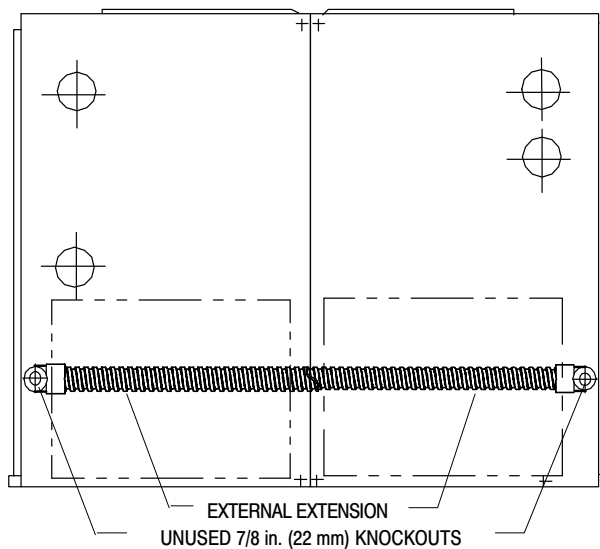

Fig. 1 – External Extension
- b. In the Back-to-Back, upflow, downflow and horizontal applications, reference the furnaces from the side of the external extension harness. The LH furnace is the Main furnace and the RH furnace is the Secondary furnace, as you would see them in the upflow application. (See Fig. 1 and 3.)